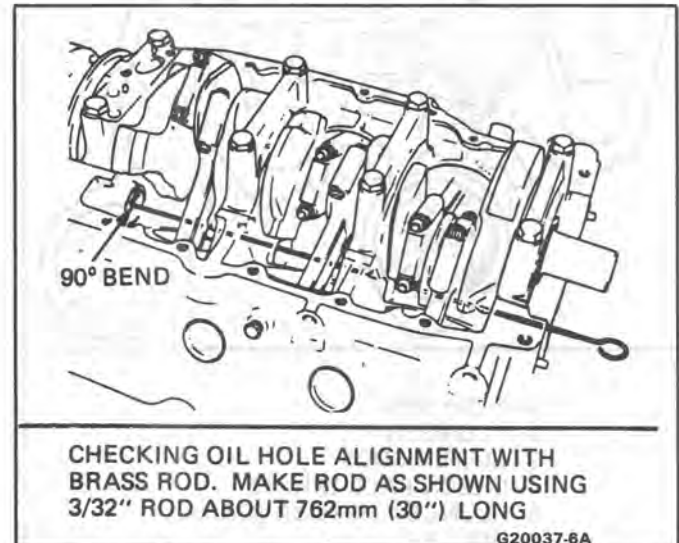

Figure 41 Checking Camshaft Bearing Oil Hole Alignment
- With a piece of 3/32" brass rod with a 90° bend at the end, probe the bearing oil holes and verify that they are properly aligned (Figure 41).